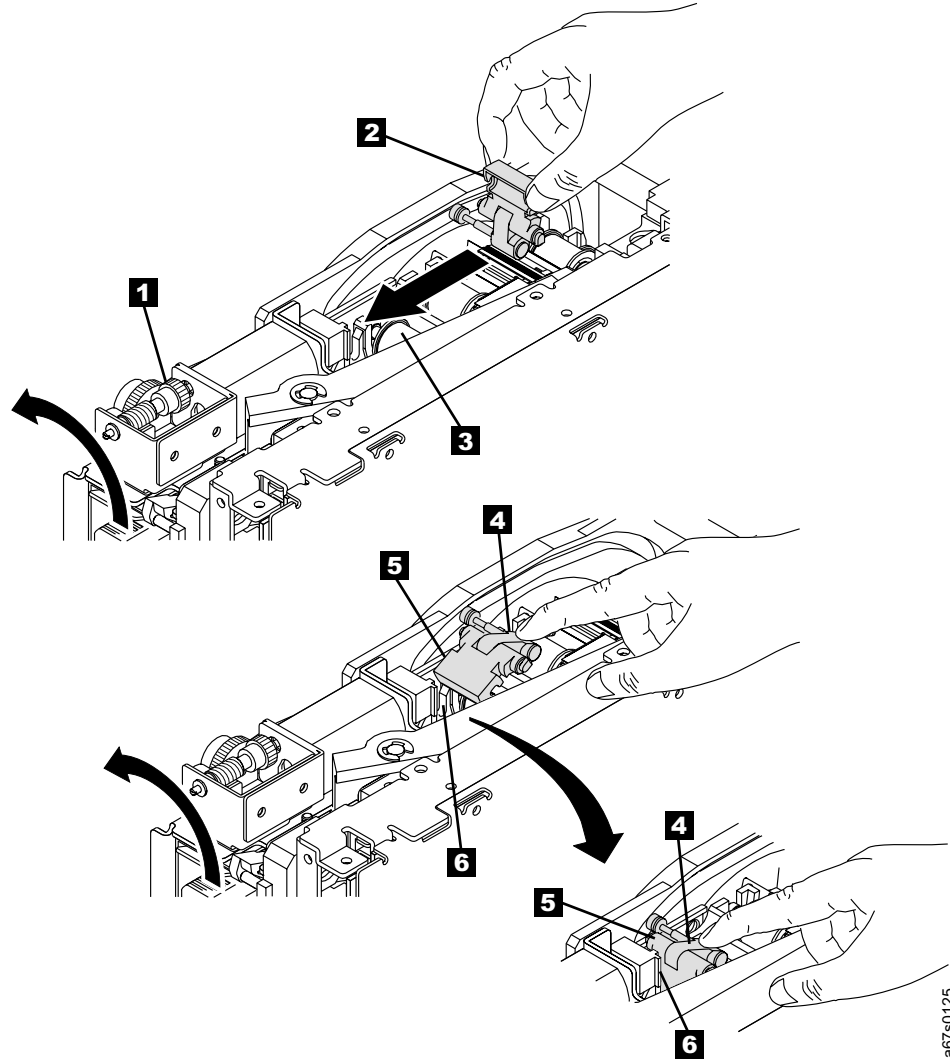

Figure 33. Guiding the leader pin into the tape cartridge
1. Manually rotate the loader motor gear (see **1** in Figure 33) in the unload (counterclockwise) direction until the leader pin block **2** reaches the last roller **3**.